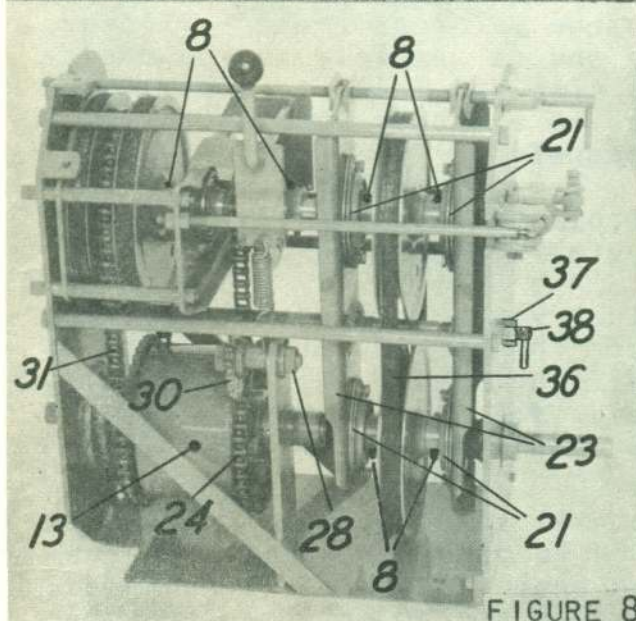

FIGURE 8
Grease twice daily at (8) (six places), Figure 8, and operate the
Change oil in gear housing of the Speed Control once each month or two months depending on amount of service. Use SAE 80 gear oil. Fill one-half full, no more, and check supply once weekly. Filler and drain opening is shown at (13) on Figure 8.
10. The Primary Input Chain (24), Fig. 8, which serves to rotate the transmission case when the drive unit is set for digging speeds, is adjusted by loosening bolt (28) and sliding the idler sprocket (30) in to remove excess slack. Retighten the bolt.
The Secondary Input Chain (31), Figure 8, which serves to rotate or stop the transmission case when the drive unit is set for transport speeds, has no adjustment provided as it is intended to run on pre-determined fixed centers. When too much looseness develops, shorten chain one pitch.
11. The Variable Speed Drive Belt (36), Figure 8, is tensioned by loosening the locknut (37); (note- the nut has left hand threads; turn it in the opposite direction than that of a standard nut). Turn screw (38) clockwise the necessary amount and lock again with the locknut. Caution - do not over-tension. See "Trouble Shooting Section", if you have the belt tensioned and the unit seems to be slipping or failing to drive properly.
- * Insufficient speed range. The variable sheaves and their X-bars (23), Fig. 8, are out of center on their allowed endwise movement for speed changing and they cannot move sufficiently to give the desired amount of speed change without one or the other sheave striking the limit ring provided on the shaft for each sheave side. Refer to the repair section for the transmission.
- * Difficult to change speed in digging range. Oil all moving points on the X-bars (23), Fig. 8, especially the bearing holders for the ball joint bearings that connect the X-bar and variable sheave sides together. These joints must be loose. The bearing holding plates (21) must slide on the X-bars as well as the bearing must pivot in its holder. Grease hubs often but sparingly and operate the sheaves through their entire range to distribute the grease properly.